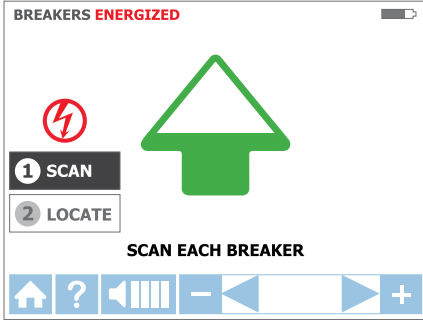

Figure 3.3b
1. The unit will automatically start in 1 SCAN mode as shown in Figure 3.3b.